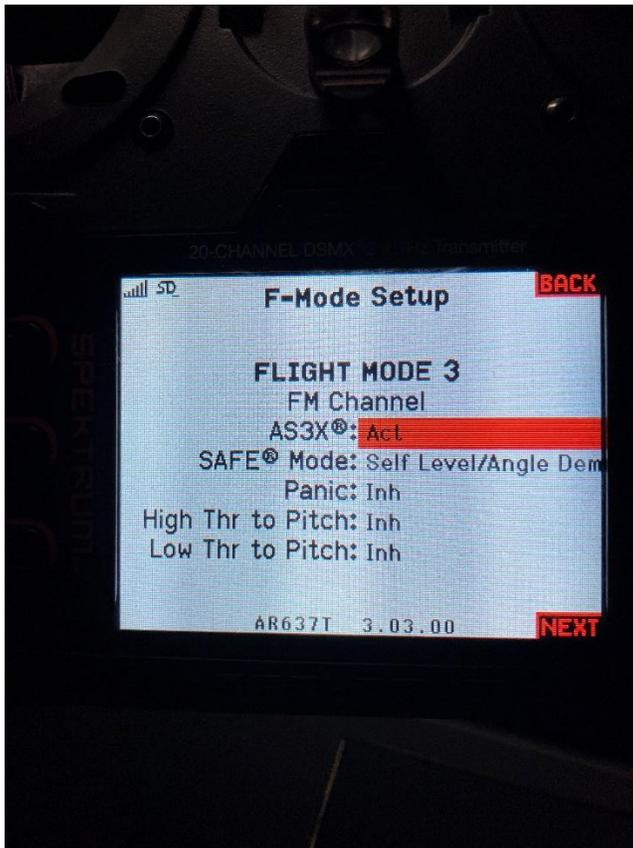

Figure 30.0 Flight Mode 3 AS3X and SAFE
7. Select **Switch B** to position 2 (closest to you). The screen should show you're on **Flight Mode 3**. We will program both the **AS3X** and **SAFE** modes to be active. *Figure 30.0* shows the screen for **Flight Mode 3 (SAFE)**. Scroll to the **AS3X** option and set it for **Act** and do the same for the **SAFE Mode**. Now you'll have both modes i.e., AS3X and SAFE engaged when you make this switch selection.